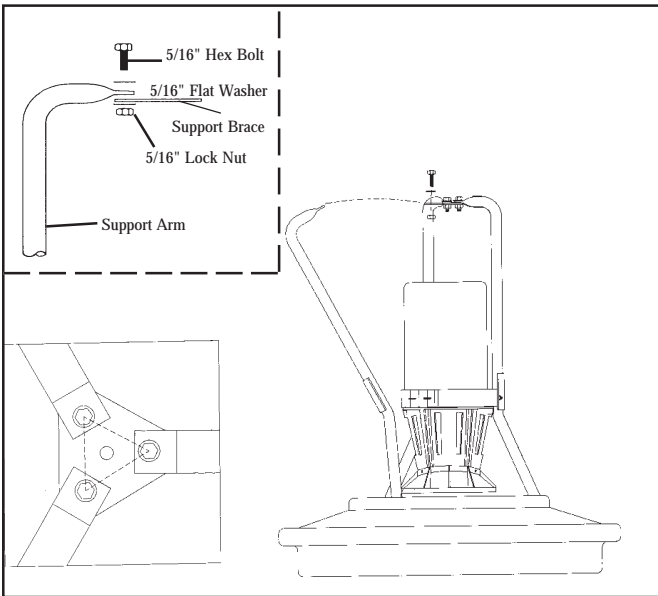

Figure 16
E. Installing remaining support arms - see Figure 16
2. Attach each of these arms to the mounting ring with (2) 1/4" flange nuts. Use the second set of holes down from the top of the support arm. Torque nuts to 10-12 ft/lbs.
3. Connect the bottom of the support arms to the support arm brace with (1) 5/16" lock nut, (1) 5/16" flat washer, and (1) 5/16" hex bolt for each of the three arms.